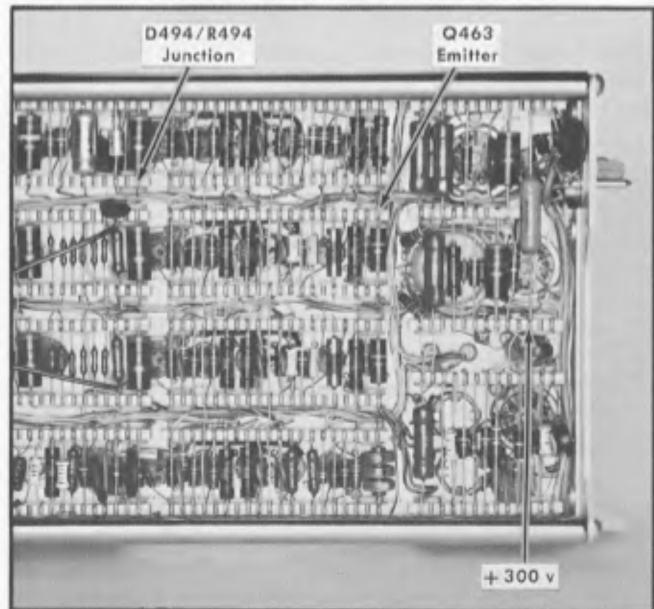

Fig. 6-1. Right side view, rear portion of the Type 3A74, showing the location of the test points.
- a. Connect a dc voltmeter between the D494/R494 junction (see Fig. 6-1) and ground.
- Connect a binding post adapter (item 12) to the channel 1 input connector.
- Connect a 2' (approx.) jumper lead with insulated test prods between the +300 volt test point (see Fig. 6-1) and the channel 1 Input connector center conductor.
- b. Connect a coaxial cable with BNC cable with BNC plug connectors on each end (item 4) between the Calibrator output connector and the channel 1 connectors. (Use a coaxial connector adapter, item 13, to complete the connections if required.)
- g. Connect the probe from a test oscilloscope (item 4) to the emitter of Q463 (see Fig.6-1).